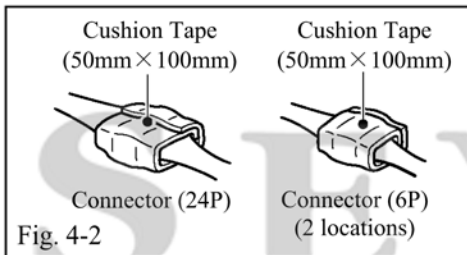

Fig. 4-2
- (c) Wrap cushion tape around locations where the connector is connected (Fig. 4-2).